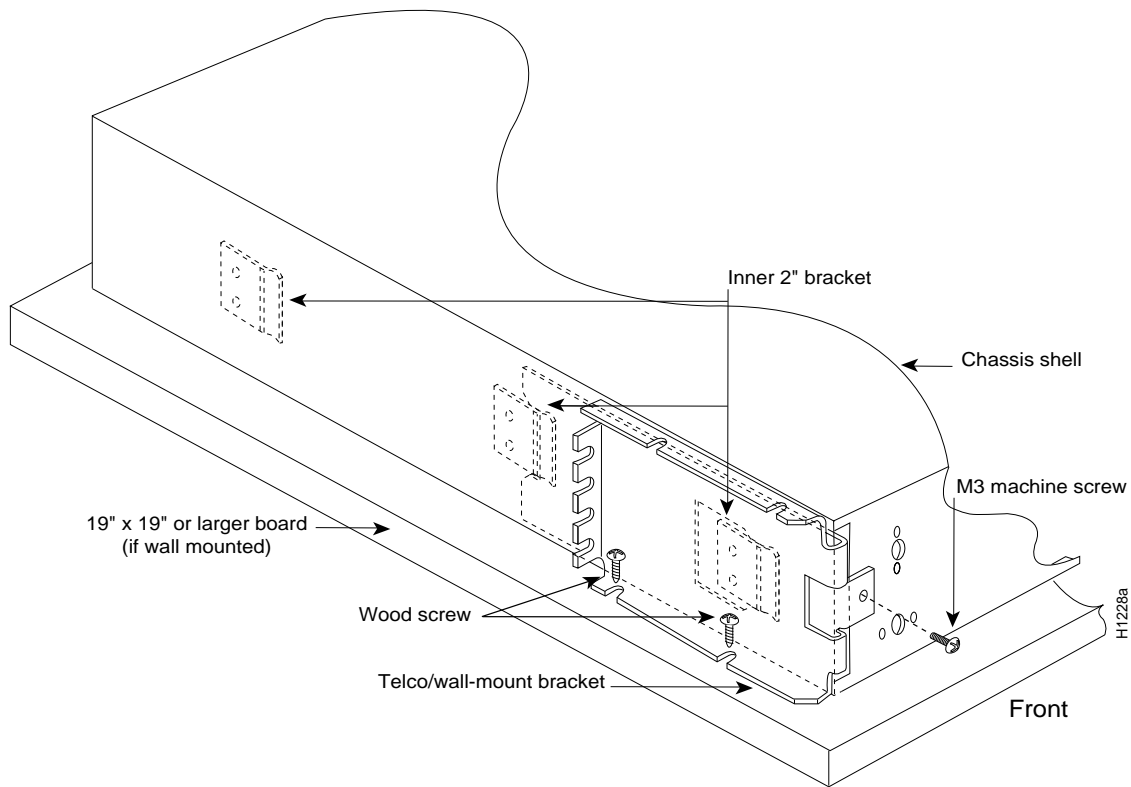

Figure 11 Screw Locations for Telco Rack/Wall-Mount Bracket
- Step 2:** Fasten the bracket to the shell on each side with one M3 machine screw (as shown in Figure 11).
Note: Figure 11 shows screw locations for both telco rack and wall-mounting. The wood screw locations apply only to the wall-mount procedures.
- Step 7:** While supporting the chassis shell, insert the lower bracket over the two wood screws in place on the piece of plywood (see Figure 11). At the same time, insert one wood screw through the top wall-mount bracket to hold the chassis in place. Follow this by inserting the second top wood screw.